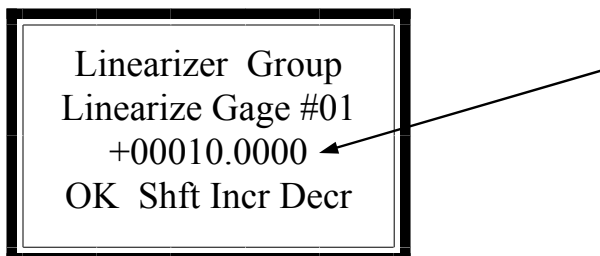

Figure 11d: Selecting the value within the each Register.
5) Enter in the correct value. Press the OK key. See Figure 11d